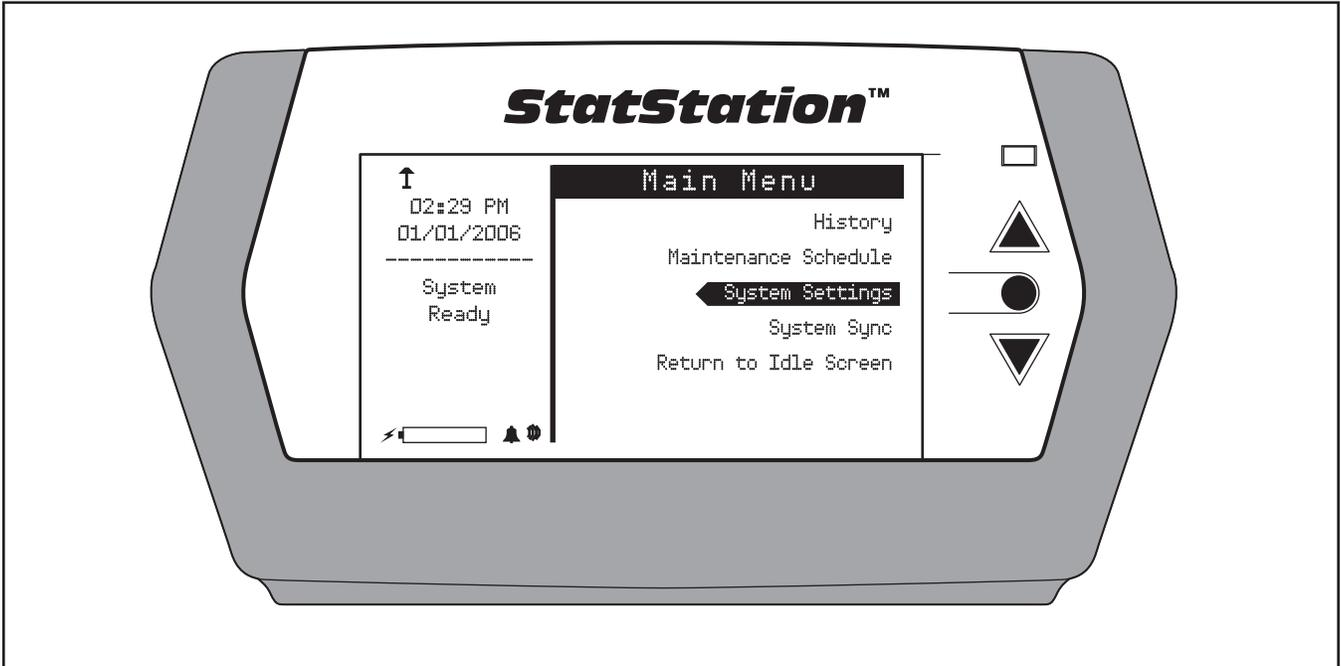

Figure 4: Main Menu
Touch any button to activate the StatStation's display console when it is in Idle Mode. Touch again to display the Main Menu (see Figure 4).
2. Select Date & Time. Follow on-screen commands within Date Adjust to set the date and do the same in Time Adjust to set the time. Note that Navigation buttons are used to set correct numbers and the Select button will move cursor from one position to the next. When all positions on the screen are set, select Finish. The correct time and date will now be displayed on the left side of the display (see Figure 4). Selecting Return to Previous Menu will again display the System Settings menu.
3. Select Audible Alarm. Choose from High, Low, or Off. The chosen setting is demonstrated and the display returns to the Audible Alarm Menu. The chosen alarm will now be displayed on the left side of the display (see Figure 4). This Alarm will sound when there are certain System Alerts. Selecting Return to Previous Menu will again display the Systems Setting Menu.